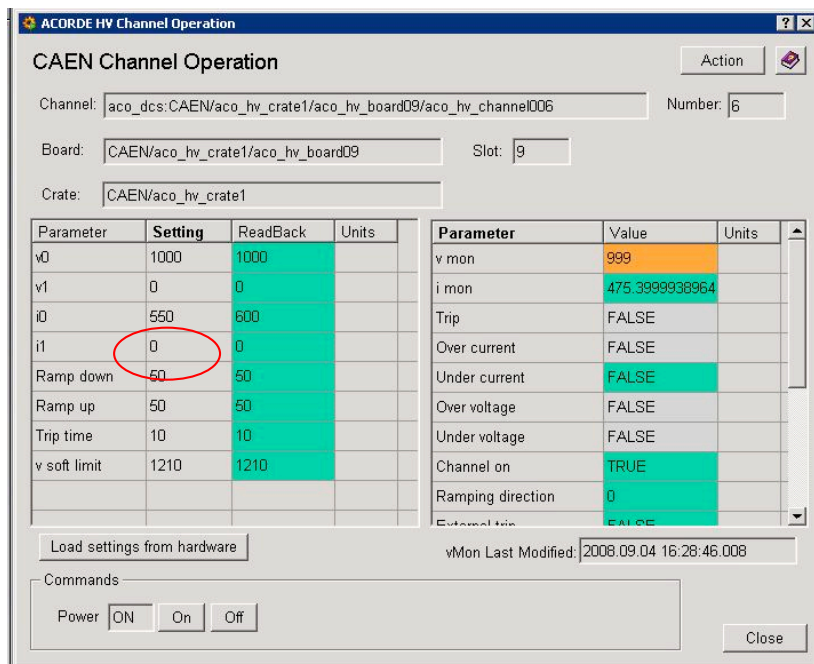

Figure 6 – HV Channel Operation Panel
- On the HV Channel Operation panel click on *v0 setting cell* (marked in Fig.6)